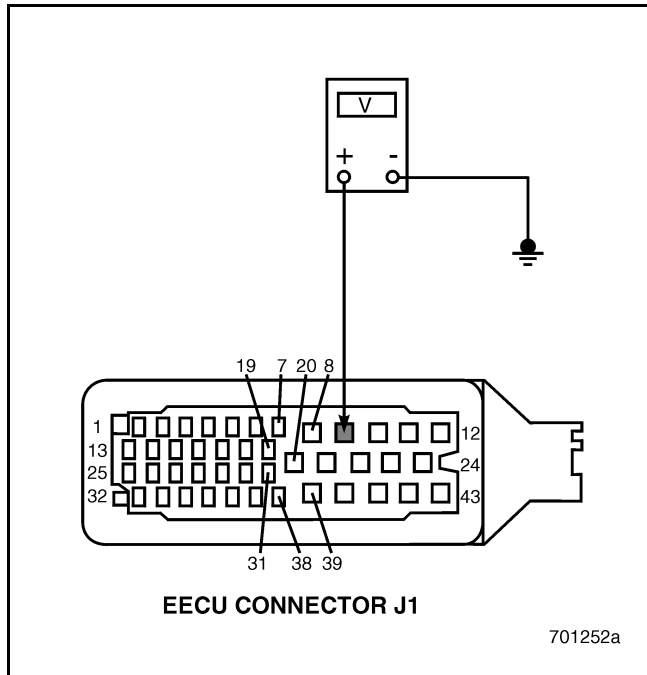

Figure 454
4. Measure the voltage between EECU connector J1 pin 9 and a good ground (see Figure 454).